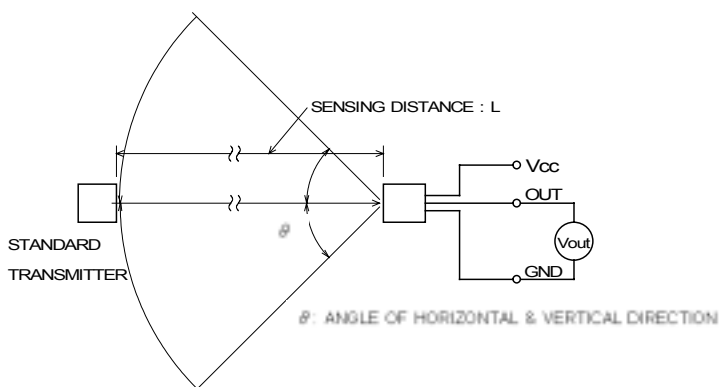

Fig.3 TEST SYSTEM
### (2) Test system: Shown in Fig.3.